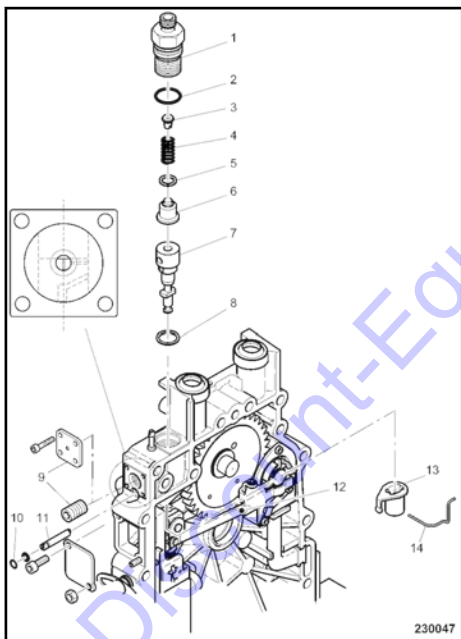

Fig. 73
Unscrew the pressure valve holder (1) ↗ Fig. 73 with O-ring (2).
Remove shim (8) ↗ Fig. 73.
*The control bushing (13) is located by the bracket (14) and does not need to be removed.*